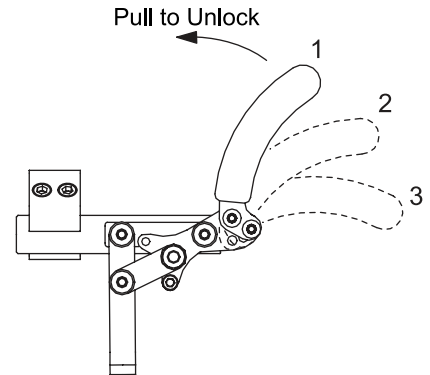

Figure 74
Six (6) handle positions are achievable using the Uni-Lock. See Figures 74 through 77. Each handle position can be used as either a Pull to Lock or a Push to Lock (see "Changing the Uni-Lock From the Push to the Pull Position" on page 54), resulting in 12 possible Uni-Lock setups.
Figures 74 through 77 show the handle in both the engaged (locked) and disengaged (unlocked) positions. Study the Figures to determine which handle configuration will work best for you. Follow the directions below to reconfigure your handle to the desired configuration.
4. Reposition the wheel lock handle to the desired Standard Handle Position 1, 2 or 3 (see Figures 74 and 75) and replace the Allen Screw and nut.
1. Loosen the two Allen Screws in the wheel lock clamp. See Figure 74.